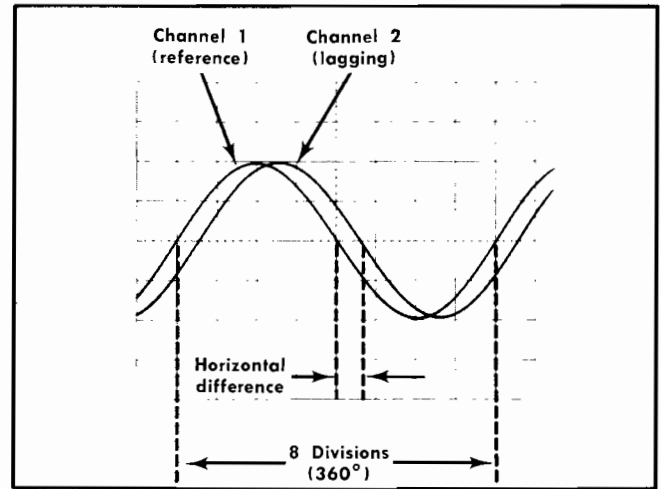
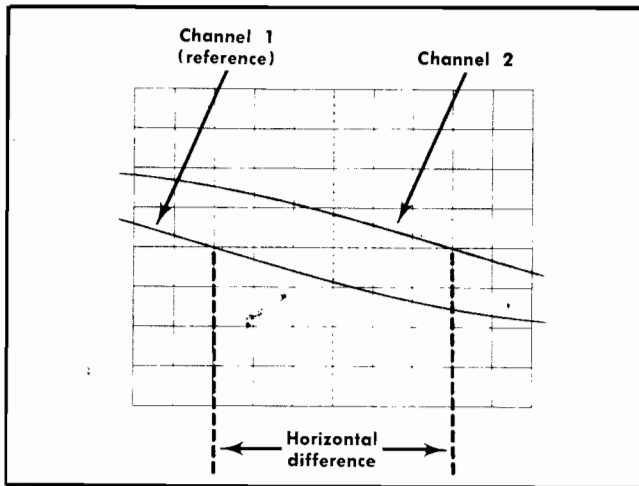

Fig. 2-7. Measuring phase difference.
Fig. 2-8. High-resolution phase-difference measurement with increased sweep rate.
9. Turn the Variable Seconds/Div control until one cycle of the reference signal (Channel 1) occupies exactly eight divisions between the second and tenth vertical lines of the graticule (see Fig. 2-7). Each division of the graticule represents  $45^\circ$  of the cycle ( $360^\circ \div 8 \text{ divisions} = 45^\circ/\text{division}$ ). The sweep rate can be stated in terms of degrees as  $45^\circ/\text{division}$ .
EXAMPLE: Assume a horizontal difference of 0.6 division with a sweep rate of  $45^\circ/\text{division}$  as shown in Fig. 2-7.
**EXAMPLE:** If the sweep rate were increased 10 times with the magnifier, the magnified sweep rate would be  $45^\circ/\text{division} \div 10 = 4.5^\circ/\text{division}$ . Fig. 2-8 shows the same signals as used in Fig. 2-7, but with the SWP MAG button pushed in. With a horizontal difference of six divisions, the phase difference is: